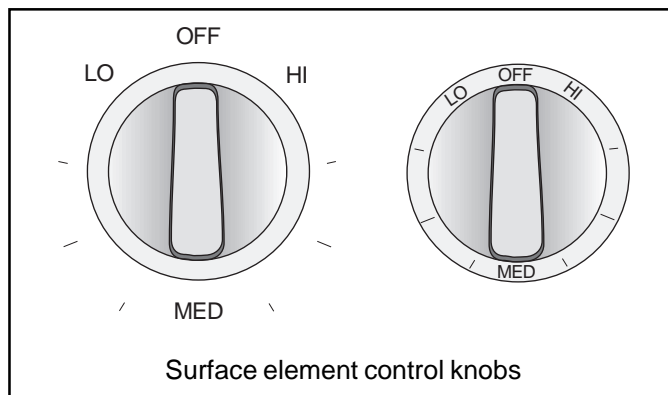

Figure 7
1. Push in and turn surface element control to desired setting. (Figure 7)